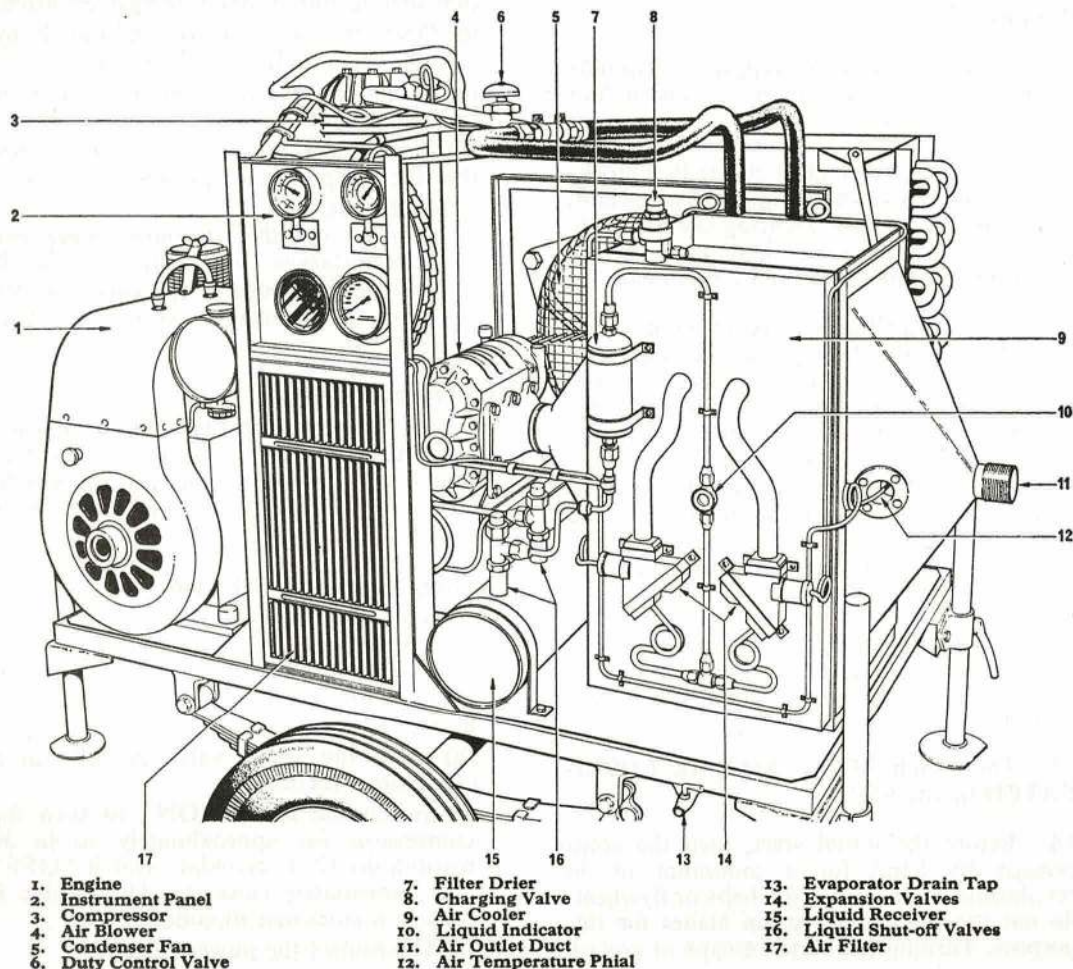

Fig. 2. TROLLEY AIR COOLING MK. 2A
19. This equipment (Fig. 2) is used to provide cool air to facilitate the ground running and testing of aircraft radar installa-
trolley (Fig. 2), its inlet port being connected to the air intake and its outlet port to the air cooler of the refrigeration plant.